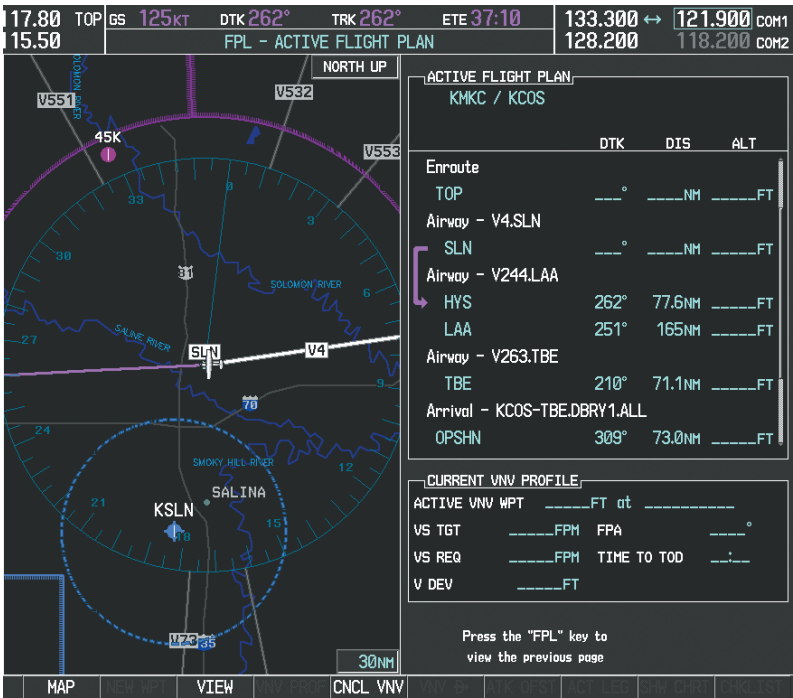

Figure 5-115 V244 Now Active Leg
9) As seen in Figure 5-115, V244 is now the active flight plan leg.